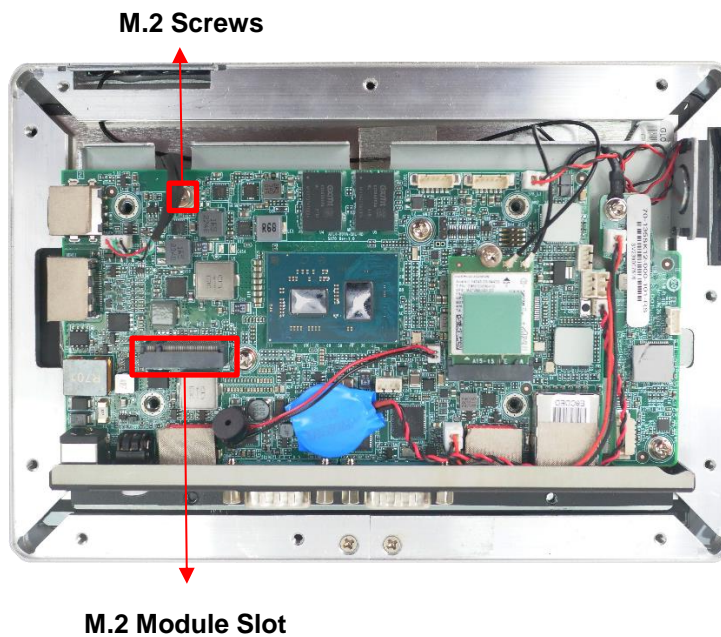

Figure 3-2: M.2 Module Slot Location
Step 2: Locate the M.2 M-key 2242 card slot. Remove the preinstalled retention screw on the standoff of the M.2 M-key card slot as shown in **Figure 3-2**.